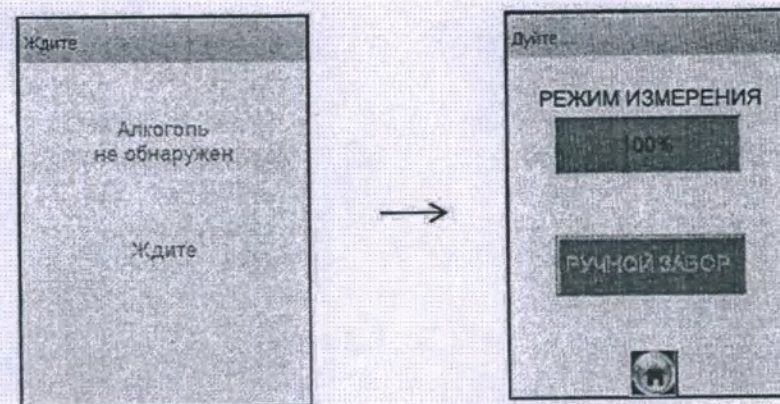

Figure 16 – Readiness for sampling
– if the test result is positive (in the absence of ethanol and other components), the analyzer will go to the window ready for sampling (Figure 16, right);